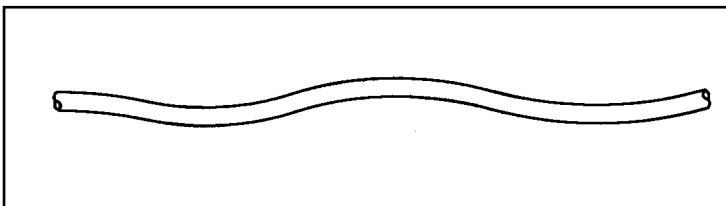

Figure 3
- A curled sheath. See Figure 3.